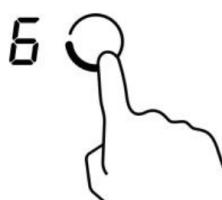

Fig.25
2. Touch the Timer control. The timer indicator will start flashing. Fig.25